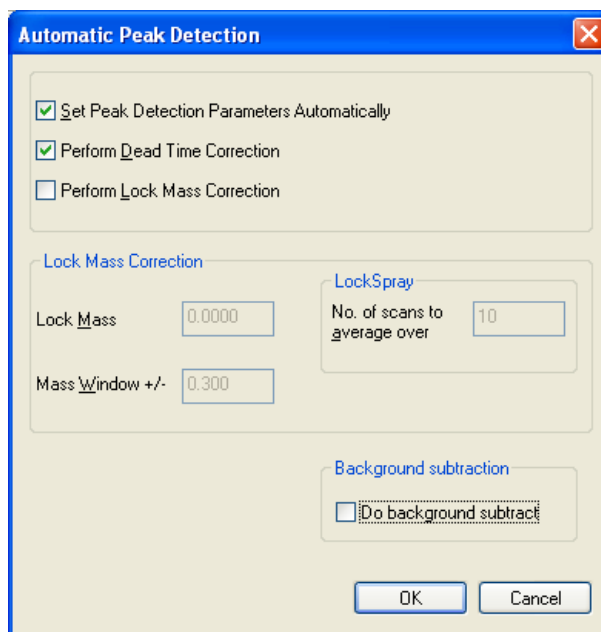

Figure 54 - Automatic Peak Detection
13. Complete the display as shown in Figure 54.